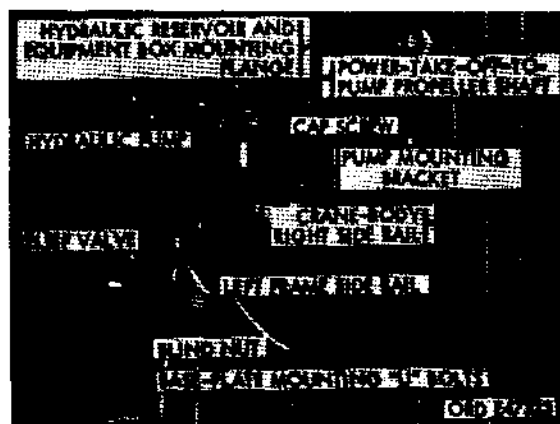
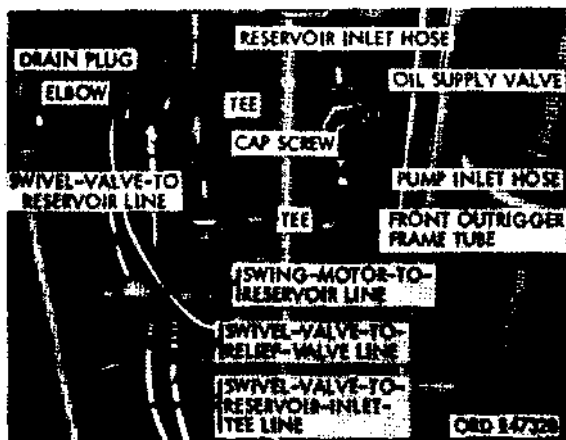

Figure 534. Bottom view of hydraulic pump and relief valve assembly installed M246
Figure 539. Front bottom view of hydraulic pump and relief valve assembly installed M246
b. Hydraulic Pump and Relief Valve Assembly. The flange-mounted vane-type hydraulic pump (fig. 534) is bolted to a bracket attached to the underside of the rear outrigger frame tube. The pump is driven by a propeller shaft (fig. 534) extending from the power takeoff on the rear of the transfer to the pump input shaft. The adjustable relief valve (fig. 534) is connected to the hydraulic pump outlet port. The purpose of this valve is to protect the crane hydraulic system from excessive (above 1200 psi) pump pressures.
flange of the crane-body side rails (fig. 534) and into tapped blocks welded to the top side of the hydraulic-reservoir-and-equipment-box mounting flanges. Weight of the reservoir and equipment box is 185 pounds.
- (1) Disconnect swivel-valve-to-relief-valve line (fig. 539) from relief valve outlet port.
- (2) Disconnect swivel-valve-to-reservoir-inlet-tee line (fig. 539) from tee at relief valve.
- (3) Loosen two hose clamps securing reservoir inlet hose (fig. 539) to sleeve on bottom of reservoir, and remove hose from sleeve.
- (4) Loosen two hose clamps securing pump inlet hose (fig. 539) to oil supply valve outlet port.
- (5) Remove power takeoff-to-pump propeller shaft (fig. 534) from pump propeller shaft (TM 9-2320-211-20).
- (6) Remove six cap screws (fig. 534) and lockwashers securing pump-to-pump-mounting bracket, pull pump from bracket, sliding pump inlet hose (fig. 539) from oil supply valve outlet port, and remove hydraulic pump and relief valve assembly from vehicle.
- (7) Remove reservoir-to-pump piping from pump inlet port.
- (8) Remove pump-to-relief-valve piping from pump outlet port.
- (9) Remove pump-to-relief-valve piping from relief valve inlet port.
- (10) Remove relief-valve-to-reservoir piping from relief valve outlet port.
- (4) Install reservoir-to-pump piping in pump inlet port.
- (5) Position pump and relief valve assembly under front outrigger frame tube, and secure pump (fig. 539) to pump mounting bracket with six cap screws and lockwashers. Tighten cap screws.
- (6) Install power-takeoff-to-pump propeller shaft (fig. 534) on pump drive shaft (TM 9-2320-211-20).
- (7) Connect swivel-valve-to-reservoir-inlet-tee line (fig. 539) to tee at relief valve.
- (8) Connect swivel-valve-to-relief-valve line (fig. 539) to relief valve outlet port.
- (9) Install reservoir inlet hose (fig. 539) on sleeve at bottom of reservoir, and tighten the two hose clamps.
- (10) Install pump inlet hose (fig. 539) on oil supply valve outlet port, and tighten the two hose clamps. Open oil supply valve.
- (8) Disconnect swivel-valve-to-reservoir-inlet-tee line (fig. 539) from tee at relief valve.
- (1) Using overhead hoisting equipment, lift base plate and pivot post assembly into position on crane body, guiding base plate mounting U-bolts (fig. 534) through holes in base plate. Remove hoisting equipment.
- (2) Connect swivel-valve-to-reservoir line (fig. 539) to tee on bottom of reservoir.
- (3) Connect swivel-valve-to-reservoir-inlet-tee line (fig. 539) to tee at relief valve.
- (4) Connect swivel-valve-to-relief-valve line (fig. 539) to relief valve outlet port.
- (5) Connect floodlight cable to bayonet-type connector clipped to top of frame cross member under crane base plate.
- (8) Insert swing-motor-to-reservoir line (fig. 539) through hole in crane base plate, and install swing motor and drive gearcase (par. 365).
- (9) Install boom lift cylinder (par. 368).
- (10) Install boom and shipper assembly (par. 367).
- (11) Lubricate hydraulic crane (refer to LO 9-2320-211-12).
- (8) Disconnect swivel-valve-to-relief-valve line (fig. 539) from relief valve outlet.